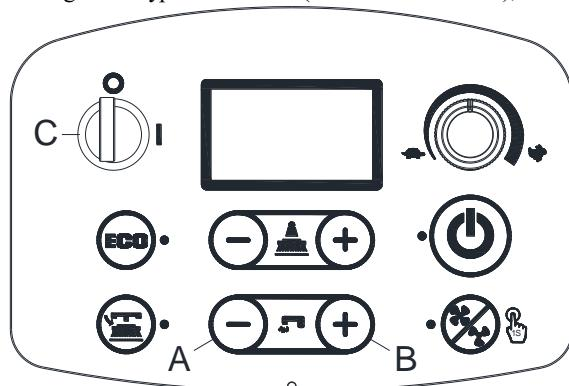

Figure 5
1. Press water flow button "+"(A, Figure. 5) and "-" (B, Figure. 5) at the same time.
2. Insert the ignition key (C, Figure. 5) and turn it to "I".
4. Press water flow button "-"(A, Figure. 5) and "+"(B, Figure. 5) to select battery mode (H, Figure. 6)
5. 3 seconds later show " Update OK" means setting succeeds, turn on to restart. (C, Figure. 5)